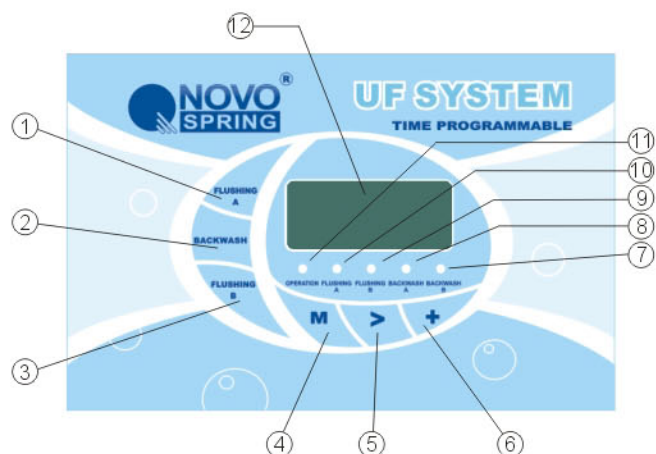

Fig 2
- Figure 2 (Fig 2) is key specification of Controller.